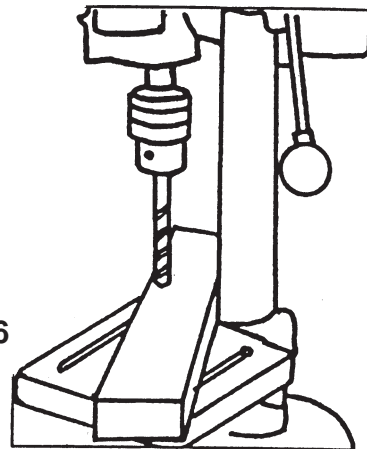

Figure 6
7. WHEN DRILLING COMPLETELY THROUGH WOOD, always position a piece of scrap wood between the material and the table to prevent splintering on the underside of the material as the drill breaks through. The scrap piece of wood must make contact with the left side of the column as shown in **Figure 6**. Also, set the depth of the drill so that the drill will not come in contact with the table - or align the table so that the hole in its center is in line with the drill bit.